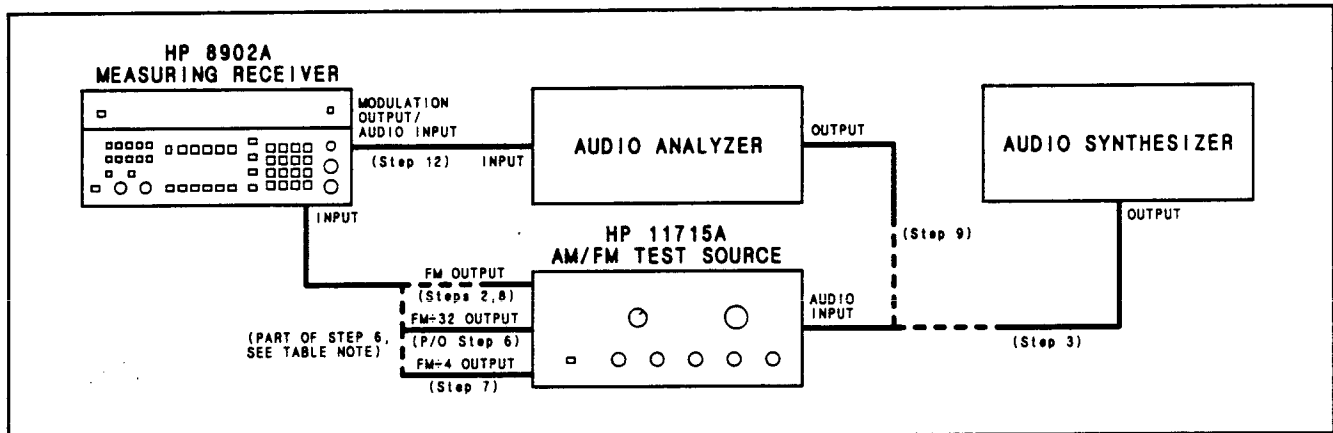

Figure 4-3. ΦM Performance Test Setup
2. On the AM/FM test source, set the test mode to FM. Connect its FM output to the Measuring Receiver's INPUT. (See Figure 4-3.)
3. Set the audio synthesizer to 200 Hz at -10 dBm. Connect its output to the audio input of the AM/FM test source. (See Figure 4-3.)
* Connect the FM \div 32 output of the AM/FM test source to the Measuring Receiver's INPUT to make this measurement. (See Figure 4-3.) Press AUTOMATIC OPERATION, then MHz to retune the Measuring Receiver. If the resolution is not 0.001 rad, press Φ M again.
7. On the Measuring Receiver, key in 3.1 SPCL to set the IF to 455 kHz. Press FM. On the AM/FM test source, connect the FM \div 4 output. (See Figure 4-3.) Set the audio synthesizer frequency as shown in the following table. Set the Measuring Receiver High Pass Filter as shown in the table. Set the audio synthesizer level to give the FM deviation shown in the table. After setting each FM deviation, press Φ M. For each setting, the Measuring Receiver's display should read between the limits indicated in the table.
8. Connect the FM output of the AM/FM test source to the Measuring Receiver's INPUT. (See Figure 4-3.) Press AUTOMATIC OPERATION on the Measuring Receiver.
9. Set the audio analyzer's oscillator to 1 kHz. Connect its output to the audio input of the AM/FM test source. (See Figure 4-3.)
12. Connect the audio analyzer's input to the Measuring Receiver's MODULATION OUTPUT/AUDIO INPUT. (See Figure 4-3.) Set the audio analyzer to measure the distortion on the 1 kHz signal at the MODULATION OUTPUT/AUDIO INPUT. Set the high-pass filter on the audio analyzer to 400 Hz. The distortion should be 0.1% (–60 dB) or less.